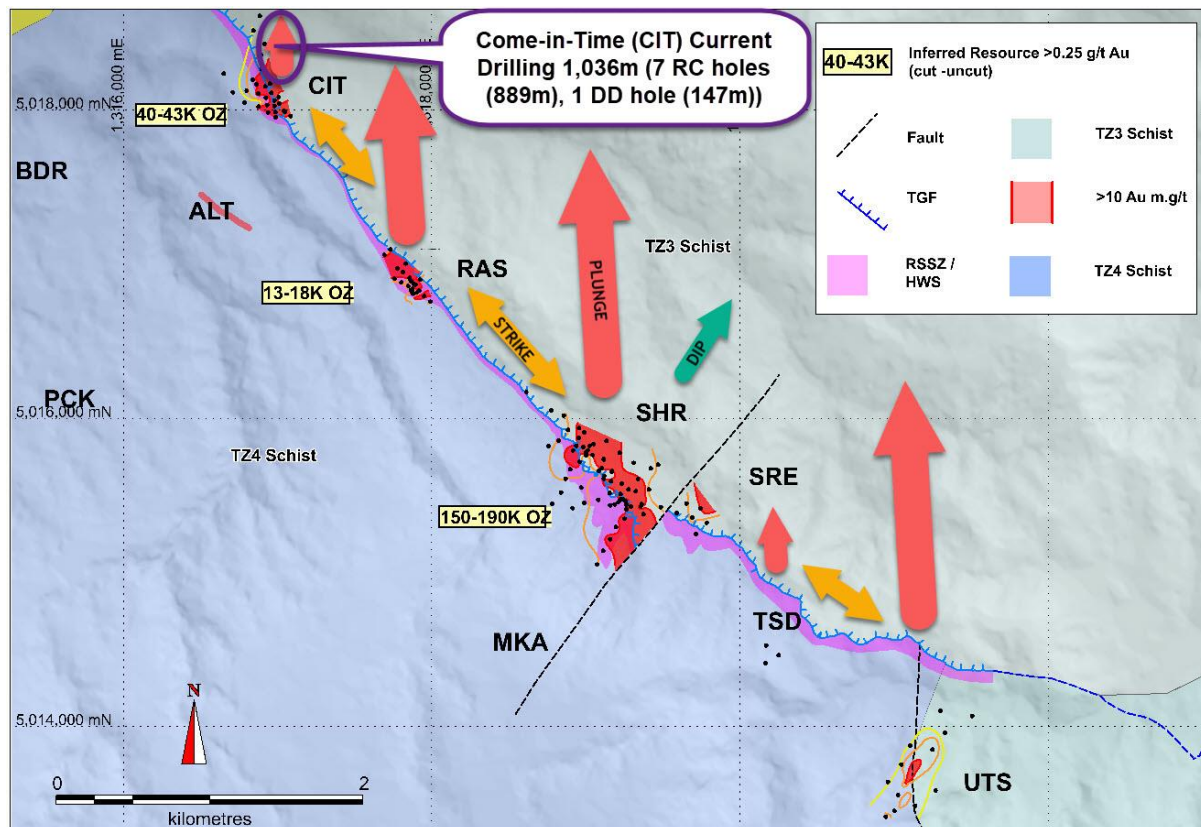

Figure 2 Come-in-Time (CIT) location and other RSSZ potential resources extensions
Santana reported (ASX Announcement 27th November 2020) that diamond drilling had commenced at CIT (Figure 2 and 3). Reverse circulation (RC) percussion drilling commenced on 3rd December and to date a combined total of 1,036 metres has been completed in 7 RC drillholes (889 metres) and 1 DD drillhole (147 metres) (Table 1).